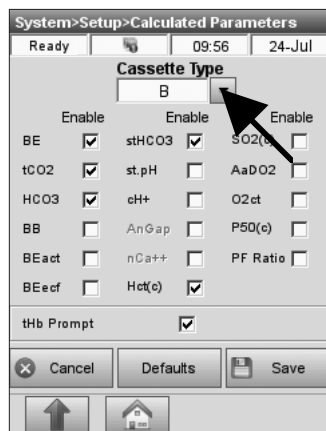

Fig. 3-29 Select Parameters
3. Select the cassette type (Fig. 3-29).